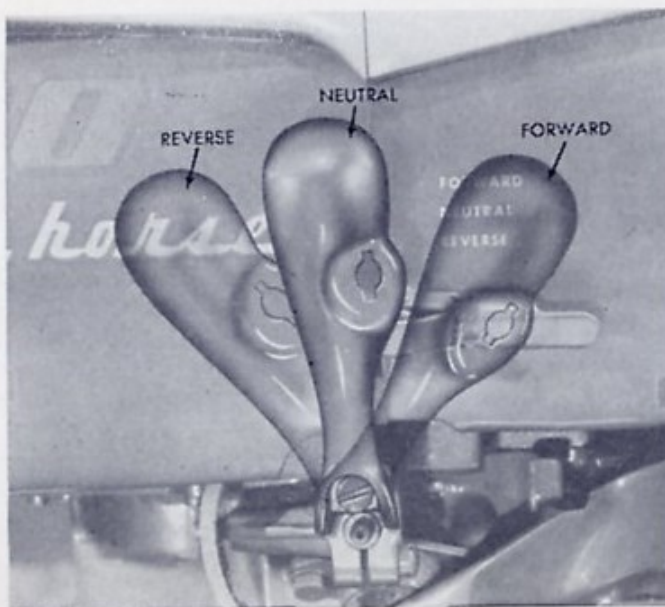

Figure 9
Shifting is accomplished by an arrangement of gears in the gear case through linkage with the shifting lever conveniently located for ease of operation (Fig. 9).
2. Move gear shift lever to center or "neutral" position (Fig. 9). DO NOT ATTEMPT TO START MOTOR IN GEAR.